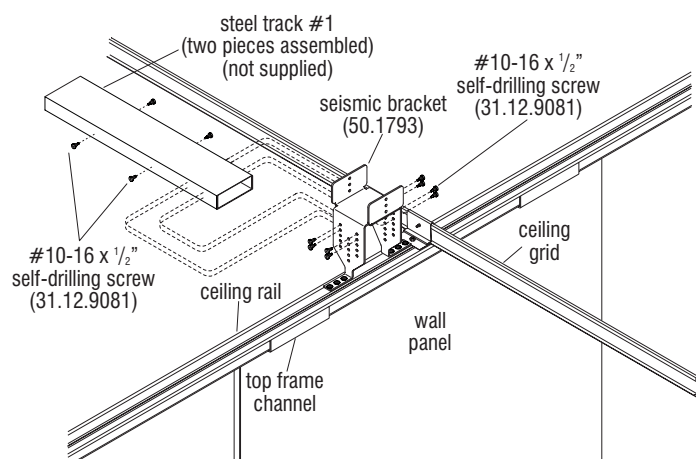

Figure 3 - Off-Center Seismic Bracing - Steel Track #1 to Seismic Bracket
2. Create steel track #1 length first to reach from the installed seismic bracket, over to a location where steel track #3 can reach vertically up to structure above (see Figure 4 for assembly reference). Steel track #1 will be made of two identically cut lengths of track fastened together and will not require any cuts for a bend (Detail B). It must extend horizontally from the seismic bracket to the location where steel track #2 can attach to it. Take into account that steel track #2 will bend up at an angle to the appropriate structure above (see Figure 4 for assembly reference). Once the length is determined for steel track #1, cut two pieces of the track material to equal size and nest them together. The open "channel" sides should be facing each other and will fit together with their side flanges offset from each other (Detail B). Secure both tracks together at the side flanges with #10-16 x 1/2" self-drilling screws (31.12.9081) (Figure 3).
3. Install steel track #1 to the seismic bracket by placing one end inside the installed seismic bracket such that the side flanges of the tracks mate inside the bracket at the top four mounting holes on each side. This allows for maximum room to re-install ceiling tiles. Secure steel track #1 to the seismic bracket with eight #10-16 x 3/4" self-drilling screws (49.0460) as illustrated (Figure 3 & Detail C).